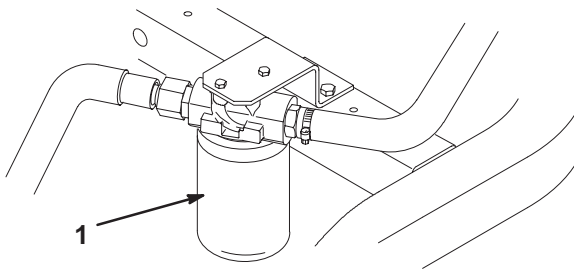

Figure 39
1. Clean the area around the filter mounting area (Fig. 39). Place a drain pan under the filter and remove the filter.